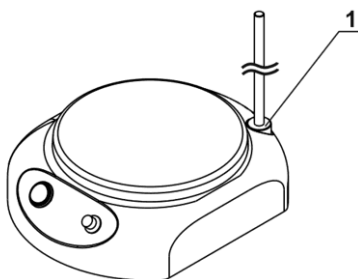

Figure 1. SR-1 stand for MMS-3000
- 4.4. **SR-1 stand installation on MMS-3000.** Remove the screw on the fixing socket at the back of the stirrer (fig. 1/1). Screw in the part of the stand with the counter-nut into the fixing socket and secure with the counter-nut. Screw in the second part of the stand into the attached first part.